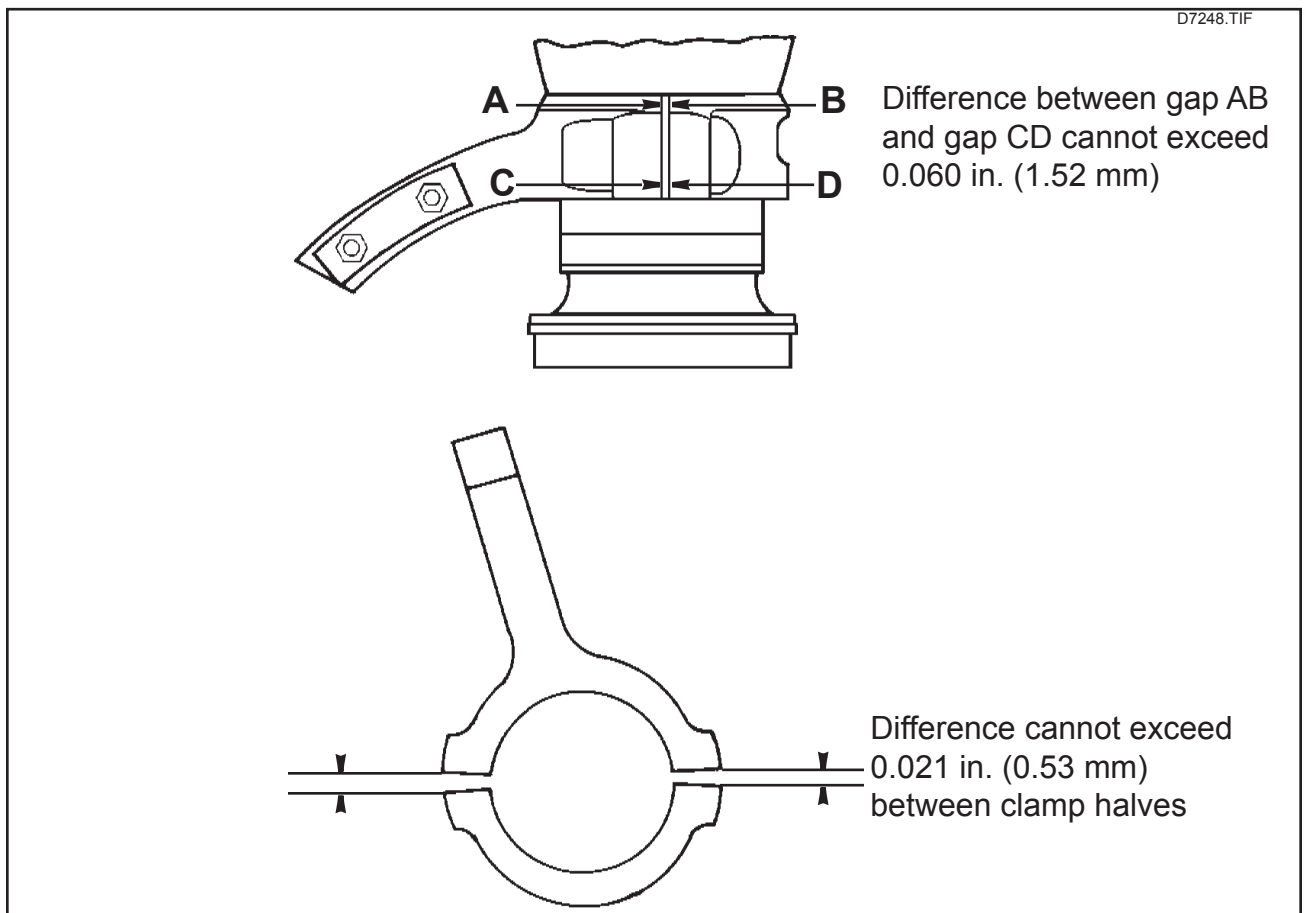

Figure 1 - Blade Clamp Installation
- (6) Position the counterweight clamp in place on the blade shank as shown in Figure 1.
- (7) Install cap screw and washer through the small half of the E-7248 clamp first. Secure the large half of the clamp to the small half using one B-3834-0632 washer and one B-3828-6 nut.
- (8) Repeat Step 7 for the remaining 3 bolts.
- (9) Alternately tighten down the outboard B-3828-6 nuts at the leading and trailing edges of the blade, keeping the gap between clamp halves relatively equal until the clamp's outboard edge fits loosely against the blade between the leading and trailing edges. The clamp should be able to move freely on the blade.
- (16) Check the gap distance between the clamp halves as shown in Figure 1.
- (17) Remove excess adhesive with a dry rag. The rag may be moistened with acetone CM 11 if the adhesive is difficult to remove.